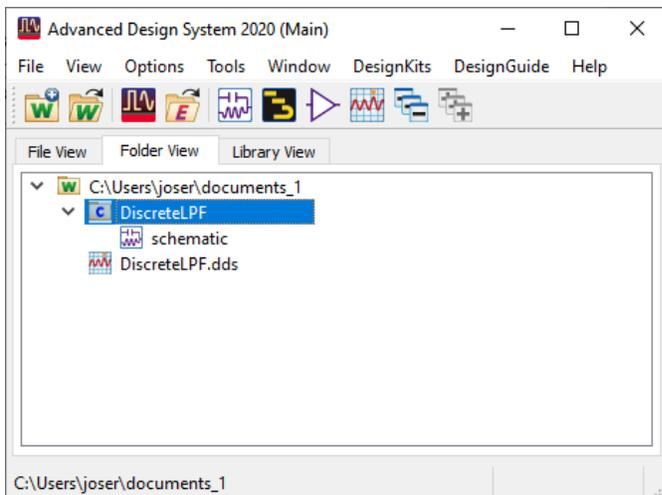

Figure 7. Main Window showing cell to be copied
- Go to the PathWave ADS Main Window. Right-click the LPF cell (in this case, **DiscreteLPF**) and select **Copy Cell**. This is shown in Figure 7.